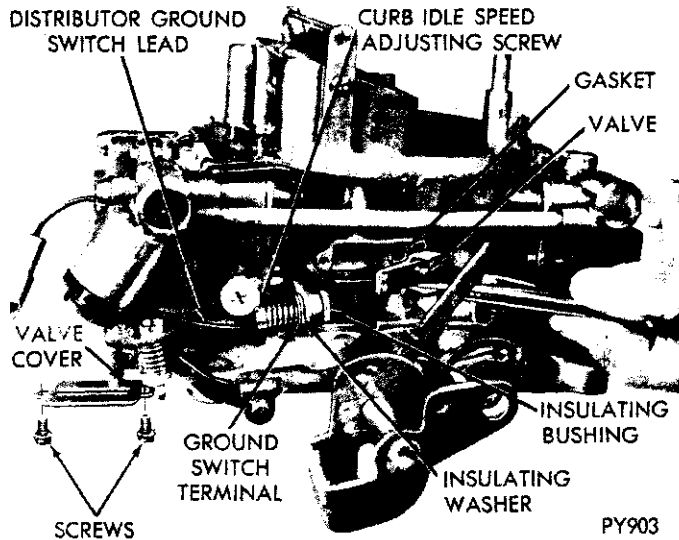

Fig. 5—Removing or Installing Hot Idle Compensator Valve
(11) Remove secondary diaphragm attaching screws and remove diaphragm assembly. Disengage diaphragm stem from secondary stop lever. Remove gasket.
(12) Remove pump discharge nozzle retaining screw, then lift out discharge nozzle. Remove gasket from nozzle (top and bottom).
(13) Remove screws that attach hot idle compensator valve cover to main body. Lift off cover, then remove valve and gasket. (Fig. 5). If so equipped.
(14) Remove curb idle speed screw and spring. Then remove insulating washer from between lead terminal and stop. Remove distributor ground switch lead. Using a thin blade screw driver, remove insulator bushing from boss on body. (Fig. 5).
(15) Invert carburetor and drop out pump discharge jet needle from discharge passage.
(16) With carburetor inverted, remove screws that attach the throttle body to main body (Fig. 5). Remove throttle body and discard gasket.